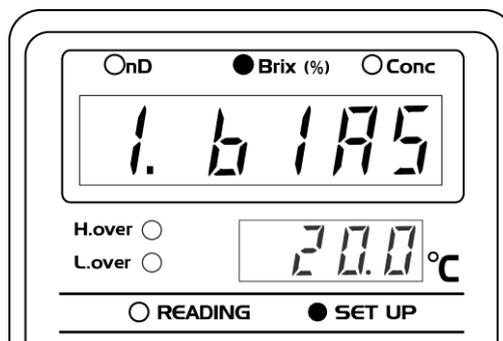

Fig. 11-3
⑦ Press the **ENTER** key. The SET UP light comes on and "1. bIAS" will appear on the measurement value display (Fig. 11-3).
Press the **SCALE** key to return to the previous "1. bias" screen (Fig. 11-3).
※ Press the **SCALE** key to abort the change and return to the previous "1. bias" screen (Fig. 11-3).
The "1. bias" screen will be displayed (Fig. 11-3).